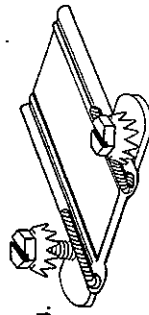

Fig. 4.
2. Place the cable end under the cable clamping screws as shown in Figure 4. Tighten the screws until the sawtooth washers penetrate the insulation.